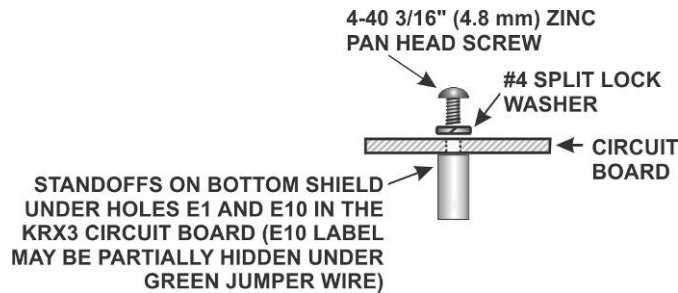

Figure 8. Mounting the Main Sub Receiver Board on Bottom Shield.
- Secure the sub receiver main circuit board to the standoffs at E1 and E10 with 4-40 3/16" (4.8 mm) black pan head screws and #4 split lock washers you removed earlier (see Figure 8).